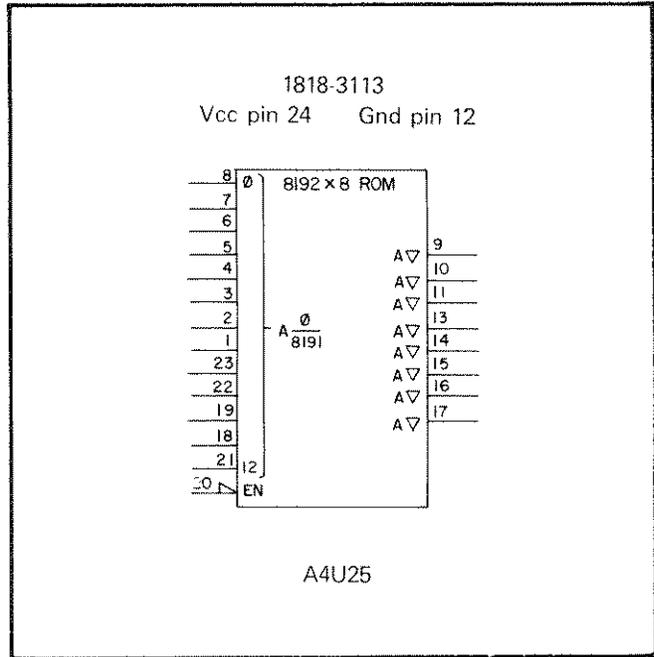
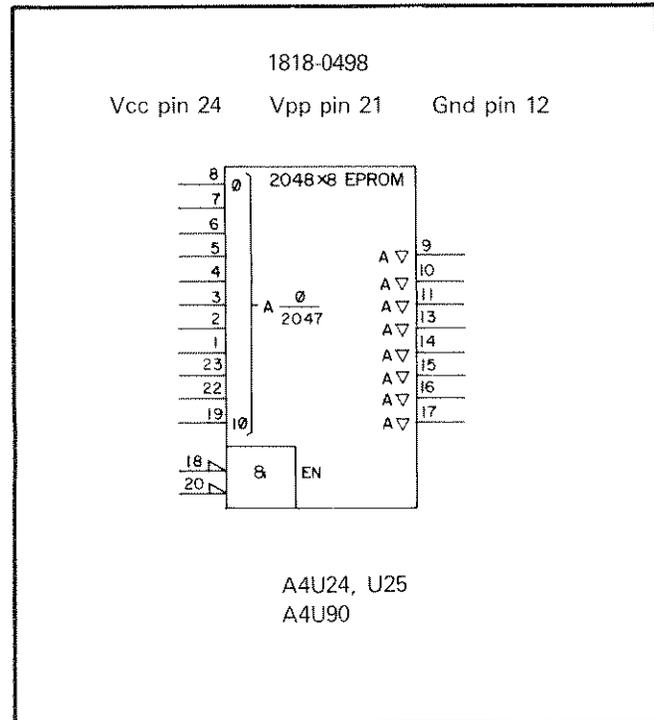

Figure B-29. Read Only Memory (ROM)
Figure B-30. Erasable Programmable Read Only Memory (EPROM)
**Read Only Memory (ROM).** Figure B-29 shows a ROM with 8-bit word length and 8192 addressable memory locations. Figure B-30 shows an erasable programmable read only memory (EPROM) with 2048 memory locations. Each device has three-state outputs controlled by an enable input. The EPROM has an additional bias voltage input used for programming.